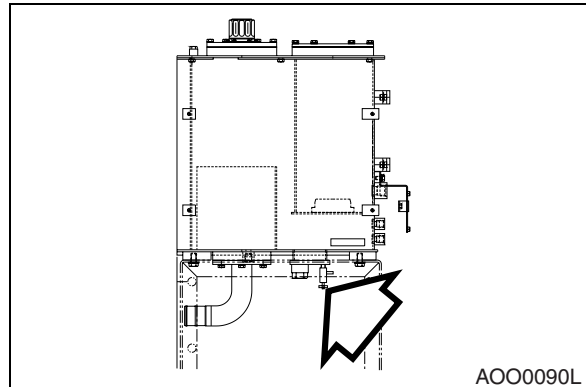

Figure 56
2. Position a container under hydraulic reservoir drain plug. Open reservoir breather cap (See Figure 11 on page 4-10). Loosen drain valve from bottom of reservoir (Figure 56). Allow all water and sediment to drain out. Tighten drain valve.